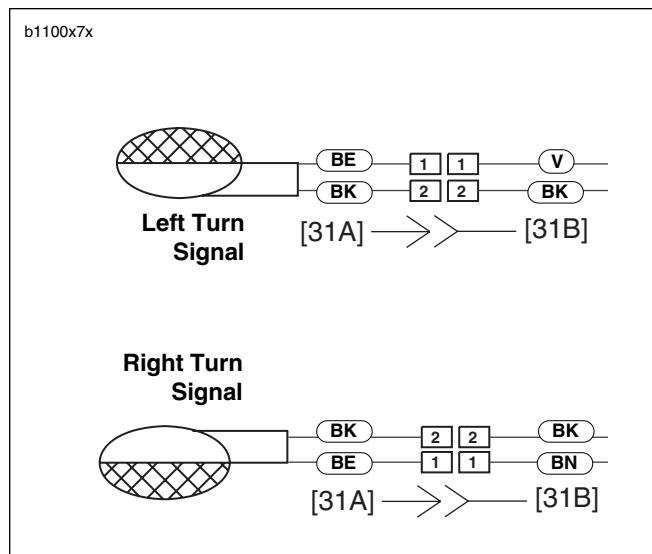

Figure 7-50. Front Turn Signal Connections
1. See Figure 7-50. Disconnect bullet connectors on turn signal wires.
2. Install turn signal (1) using lockwasher (2) and fastener (3). Tighten fastener to 25-28 **in-lbs** (2.8-3.2 Nm).
3. Attach bullet connectors on turn signal wires as shown in Figure 7-50.